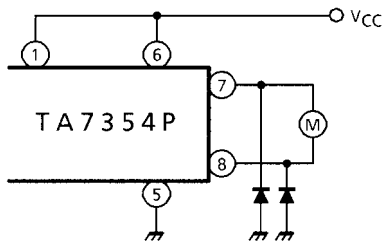

Fig. 3
(2) If the braking operation is so loose, connect a additional diode between each output to GND. (See Fig.3)